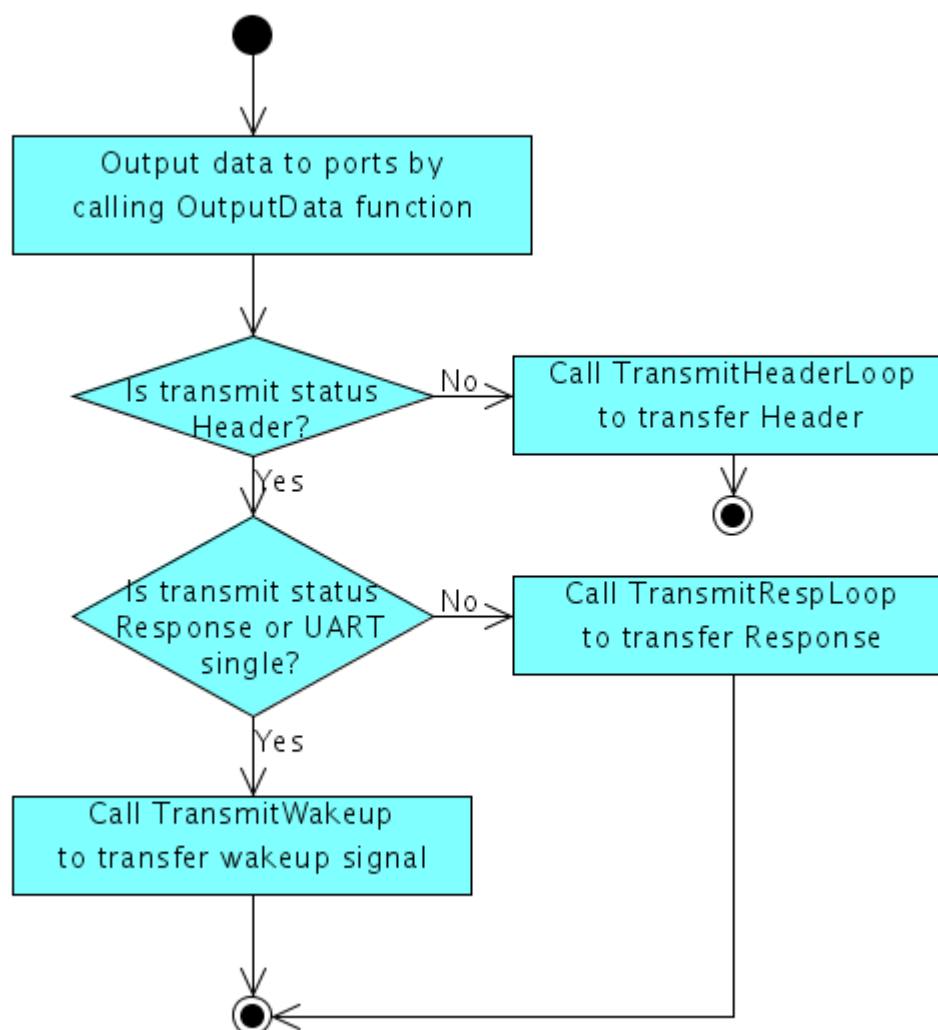

Figure 7.18: Transmit data method flow
- (1) UART_MULTI_TRANSMIT: When the RLIN3 model moves to this state and data in the register buffer is transmitted. Refer to the figures 7.18 and 7.23 for UART multi-byte
- (2) UART_SING_TRANSMIT: When RLIN3 moves to this state, the data in the register LUTDR or LUWTD R are transmitted depended on the selection stop bit completion before transferring new data. Refer to the figures 7.18 and 7.23 for the UART single byte transmission process. After finishing data transmission, the RLIN3 model moves to UART_IDLE state and waits for new transaction.